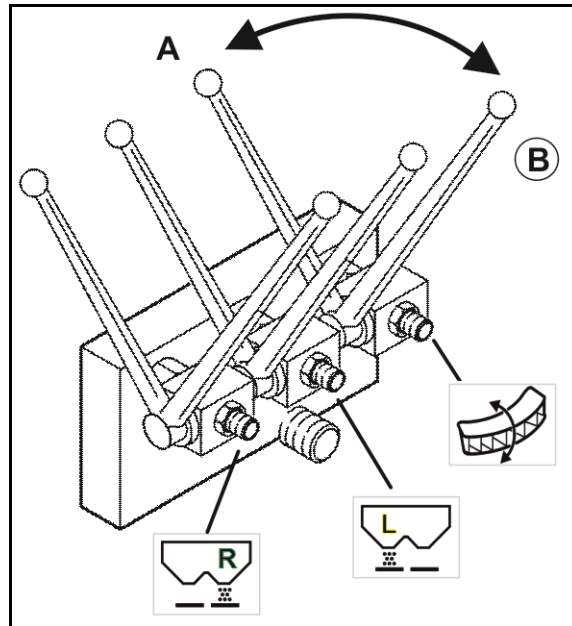

Fig. 45
2. Close the actuating lever (Fig. 45/3) for Limiter M.